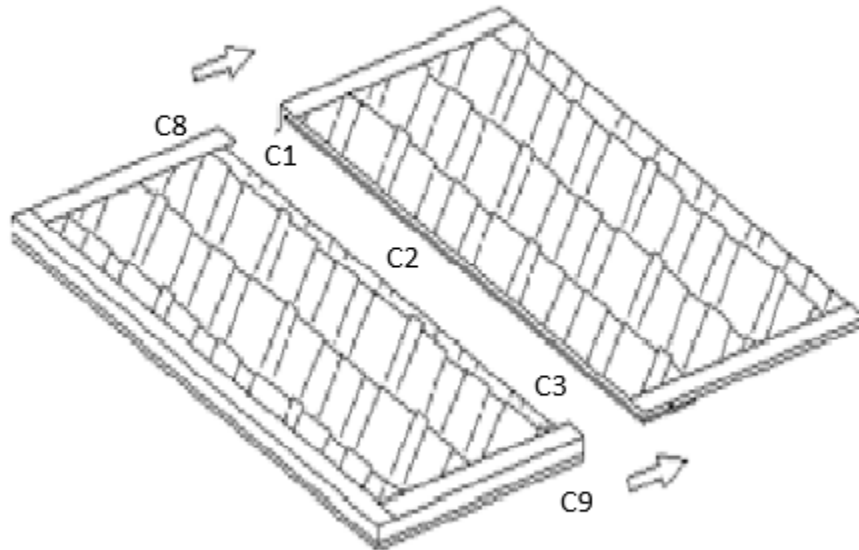

Figure 1.5
Step 7.) Using two people for this step, join both halves of the roof panel by sliding each half together with the $\frac{1}{8}$ " plywood over lapping on the inside and the shingles overlapping on the outside. Use caution and work slowly so as to not damage the shingles in the process. It may require the use of a rubber mallet to get both halves to fully seat in place. Once each half is fully seated, use the $\frac{1}{2}$ " pan head screws to secure the roof assembly together in locations (C1-C3) on the drip edge as indicated by the arrows in Figure 1.5
Step 8.) Next use the two $\frac{3}{4}$ " pan head screws to secure both roof sections at location (C8 -C9) as shown in figure 1.5